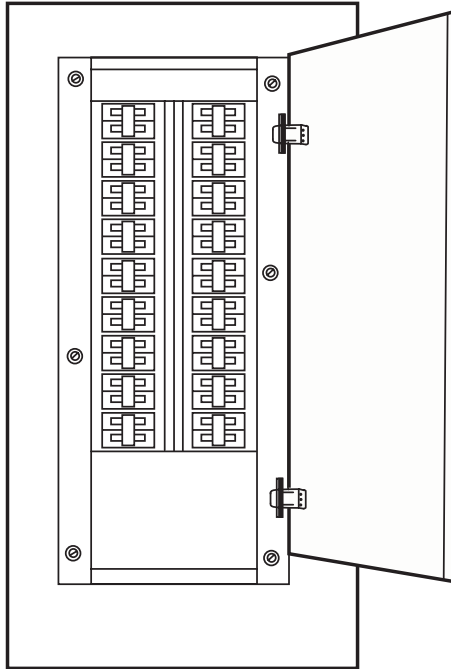

Figure 10. 120V Emergency Distribution Panel No. 1
- j. 120V emergency distribution panel No. 1 (figure 10), located in the engine room on the aft bulkhead of the EOS.